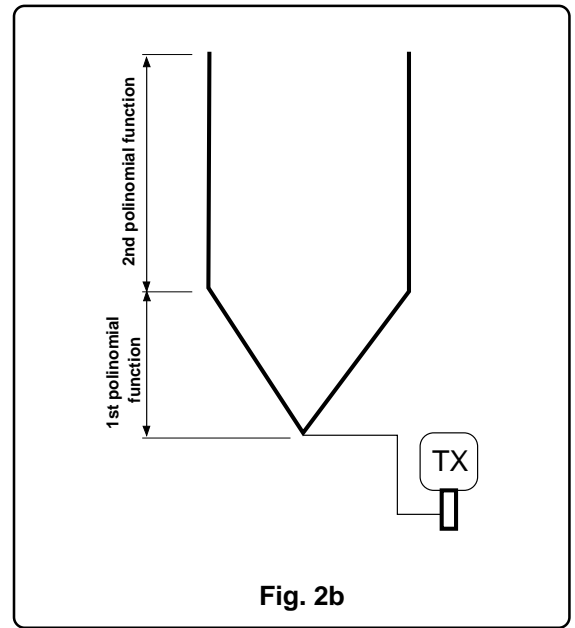

Fig. 2b
3.0 POLYNOMIAL 2 (Two polynomial functions of 2nd order) - Available for Analog + HART version - Fig. 2b